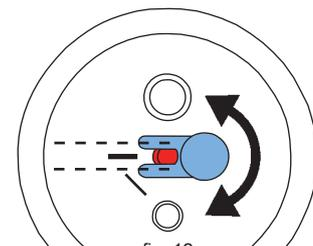

fig. 12
- The dosing nozzle must be adjusted with blasting tanks of 25-70µm (fig. 12)!